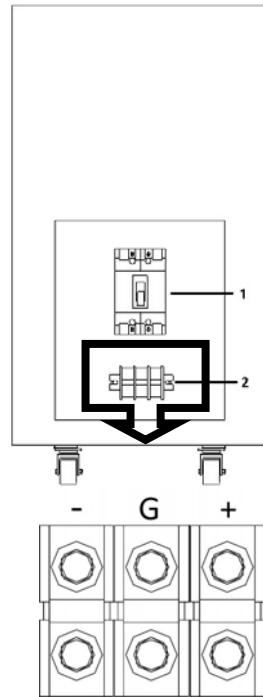
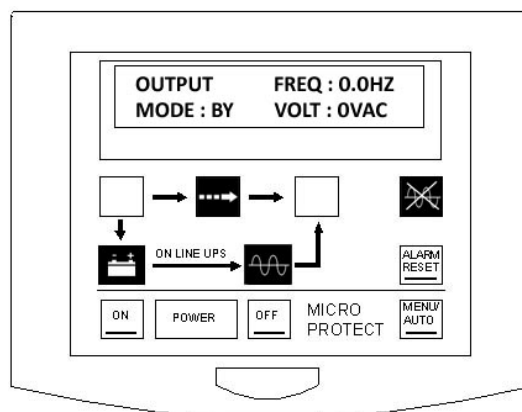

Figure 15 : External Battery Bank
Figure 17 : LCD and Indicators - 1
3. Switch ON 「 2. Battery N.F.B. 」 (see Figure 6) and you will hear a short beep, the LCD will show “WELCOME TO UPS WORLD” and “UPS LOOP CHECKED” at beginning then indicators will light and LCD will show as Figure 17.
2. Check two N.F.B.s at rear panel (see Figure 7) and 「 1. External Battery Bank N.F.B. 」 (see Figure 15) are at 「 OFF 」 position.
3. Switch ON 「 1. External Battery Bank N.F.B. 」 (see Figure 15) and you will hear a short beep, the LCD will show “WELCOME TO UPS WORLD” and “UPS LOOP CHECKED” at beginning then indicators will light and LCD will show as Figure 17.
3. Switch OFF two N.F.B.s at rear panel (see Figure 6 & Figure 7) and switch OFF 「 1. External Battery Bank N.F.B. 」 (see Figure 15).